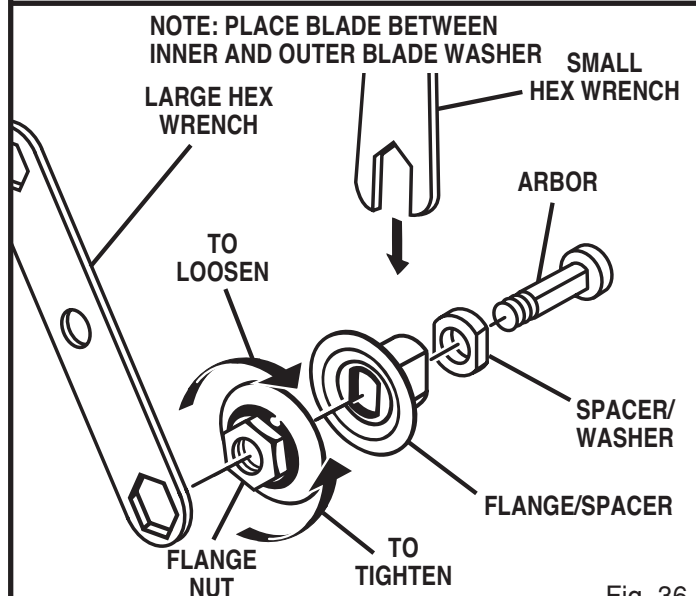

Fig. 36
- Place the open end of the small hex wrench into the slot beside the blade. The wrench will fit over two flats on the flange/spacer. See Figure 36.